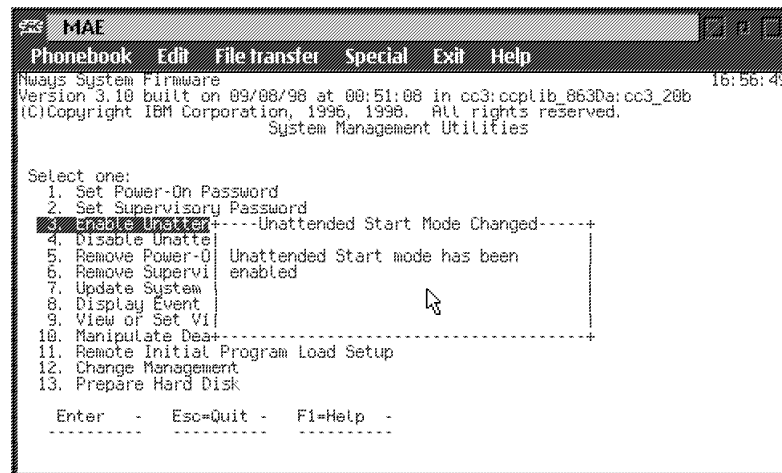

Figure 5-9. Unattended Start Mode Changed (Enabled) Panel
- 1 Select **3. Enable Unattended Start Mode** from the utilities panel. The Unattended Start Mode Changed panel is displayed (Figure 5-9).